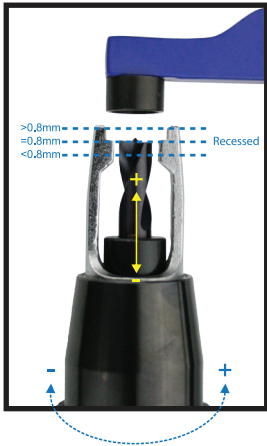

Fig. 1
Step 1 - Turn the black adjustment ring until the bit meets the recessed portion of the drill guides. Set for 0.8 mm thickness metal. (Fig. 1)